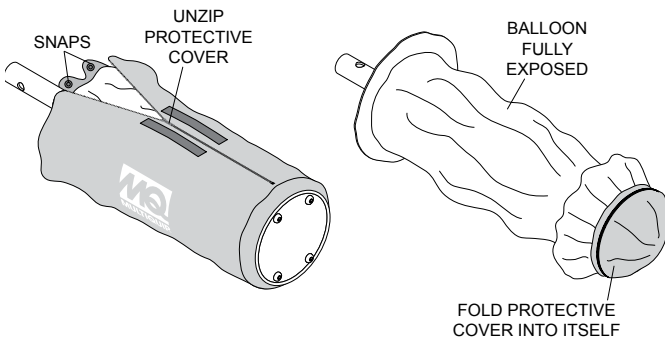

Figure 17. Removing Protective Cover
1. Expose the balloon by unsnapping the buttons and unzipping the protective cover as shown in Figure 17.
2. Next, fold the protective cover into itself and zip. See Figure 17.